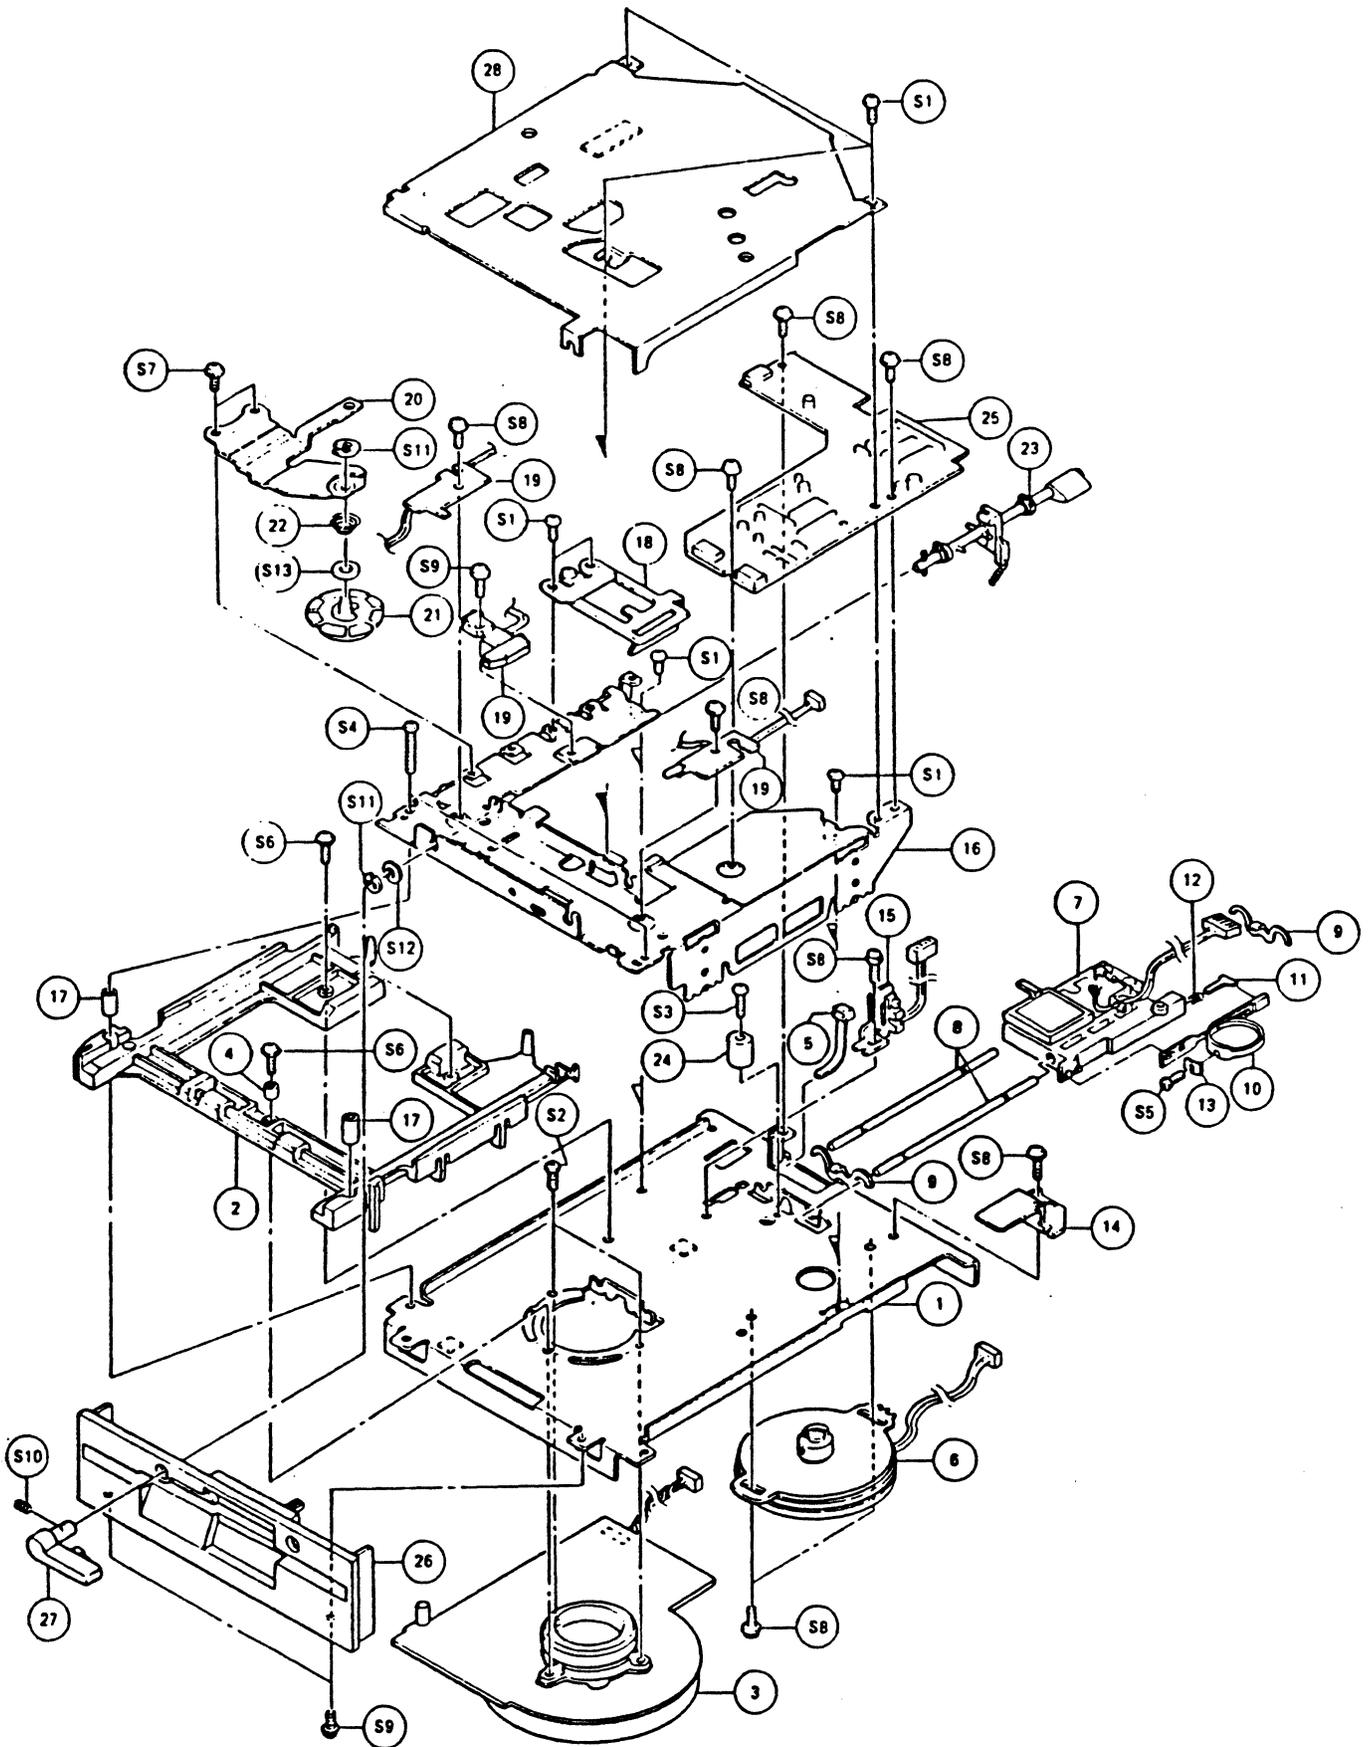

Fig. 505 Exploded Drawing
- (1) Disconnect the track 00 connector (J3).
- (2) Remove the mount screws (Fig.505, S8) and the track 00 block assembly (Fig.505, 15).
- (3) Install the new track 00 block assembly by reversing the removal procedure. (Only loosely tighten the track 00 block assembly mount screws.)
- (4) Adjust the track 00 sensor using the procedure described in item 4-4-11.
- (5) Adjust the track 00 stopper using the procedure described in item 4-4-12.
- (1) Remove the 3 mount screws (Fig.505, (S1)) and the shield cover assembly (Fig.505, (2)).
- (2) Remove the 3 mount screws (Fig.505, (S8)) and lift up the main PWB assembly (Fig.505, (2)).
- (3) Disconnect all connectors and remove the main PWB assembly.
- (4) Install the new main PWB assembly by reversing the removal procedure.
- (5) Set the PWB strap in the same way as for the previous PWB.
- (6) Check the asymmetry using the procedure described in item 4-4-7.
- (7) Check the read level using the procedure described in item 4-4-8.
- (8) Check the resolution using the procedure described in item 4-4-9.
- (9) Check the track 00 sensor using the procedure described in item 4-4-11.
- (10) Replace the shield cover assembly by reversing the procedure described in items (1).
- (11) Connect the Floppy Disk Drive to the system and perform an overall test.
(1) For the left lever
- (a) Remove the 3 mount screws (Fig.505, (S1)) and the shield cover assembly (Fig.505, (28)).
- (b) Turn the front lever assembly (Fig.505, (27)) to the closed position and remove the mount screw (Fig.505, (S10)).
- (d) Remove the 2 mount screws (Fig.505, (S9)) and the front bezel (Fig.505, (26)).
- (e) Remove the E-ring (Fig.505, (S11)) and the clamp cam assembly (Fig.505, (25)). (Use a new E-ring for reassembly.)
- (f) Remove the 2 mount screws (Fig.505, (S7)) and the clamp holder assembly (Fig.505, (24)).
- (h) Remove the 3 mount screws (Fig.505, (S8) , (S9)) and the sensor block assembly (Fig.505, (19)).
- (j) Adjust the collet center position using the procedure described in item 4-4-1.
- (k) Adjust the file protect sensor using the procedure described in item 4-4-4.
- (l) Adjust the index burst timing using the procedure described in item 4-4-13.
- (n) Adjust the front lever position using the procedures described in item 4-4-2.
- (1) Turn the front lever (Fig.505, ⑳) to the closed position and remove the mount screw (Fig.505, ㉑).
- (2) Turn the front lever to the open position and remove the front lever assembly.
- (3) Remove the mount screws (Fig.505, ㉒) and remove the front bezel (Fig.505, ㉓) by pulling it forward.